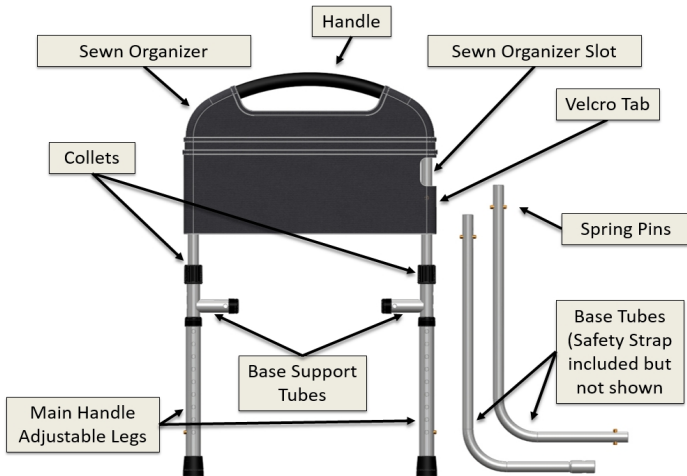

FIGURE 1
1. Remove all parts from the box and become familiar with the parts as shown in Figure 1.